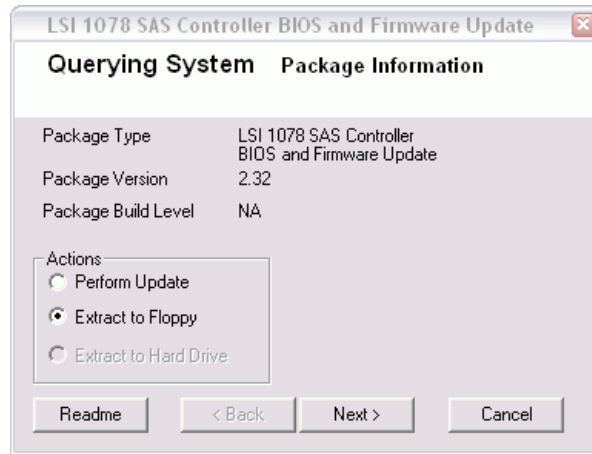

Figure 3-34 LSI1078 code package extraction
2. Start the executable package and create two diskettes (the first is bootable) by selecting of **Extract to Floppy** as shown in Figure 3-34.